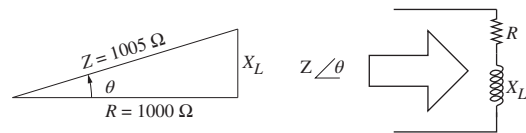

Figure P3.32 Impedance triangle to find the inductive reactance.
- 3-32.** The impedance triangle of a resistor (R) and an inductor (L) connected in series in an AC circuit is shown in Fig. P3.32, where $R = 1000 \Omega$ is the resistance of the resistor and $Z = 1005 \Omega$ is the total impedance of the circuit. Find the inductive reactance X_L and the phase angle θ .